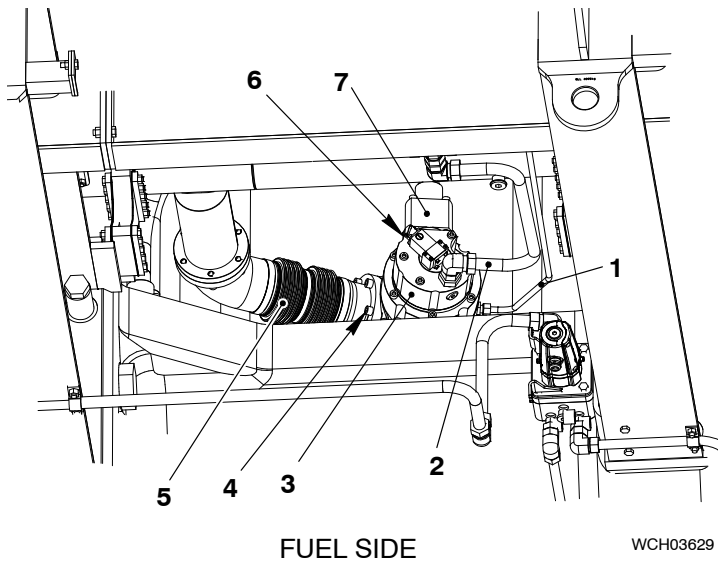

Fig. 1
- 8) Put an oil tray below the GAV (3, Fig. 1).
- 9) Remove the oil pipe (7). Do not damage sealing surface.
- 10) Disconnect the return pipe (2) and lubrication pipe (1) from the GAV (3).
- 11) Disconnect the electrical connections from the rail valve (6) and the valve stroke sensor
- 12) Remove the six screws (4).
- 13) Push the gas supply pipe (5) back a small distance.